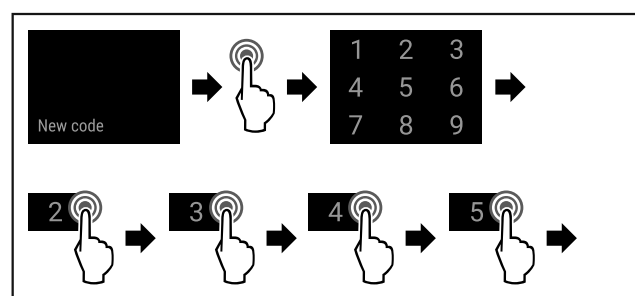

Fig. 82
- ▶ Complete steps (see Fig. 82).
- ▶ Complete the steps (see Fig. 82).